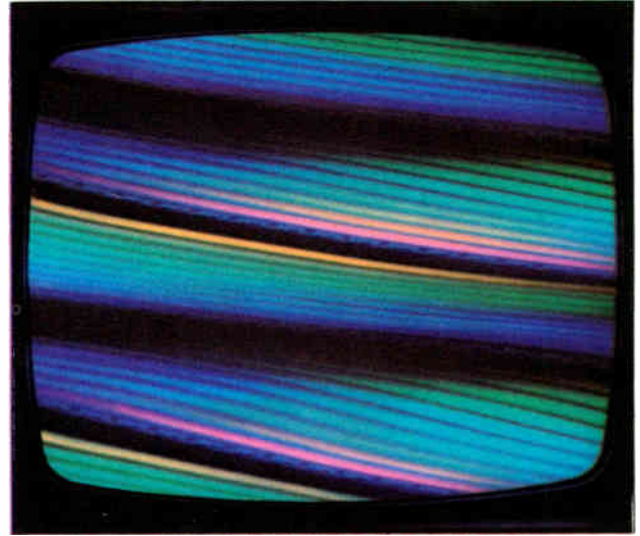

Fig. 4-3. Loss of black-and-white and color sync.
2. Loss of both black-and-white and color sync. An example is illustrated in Fig. 4-3.